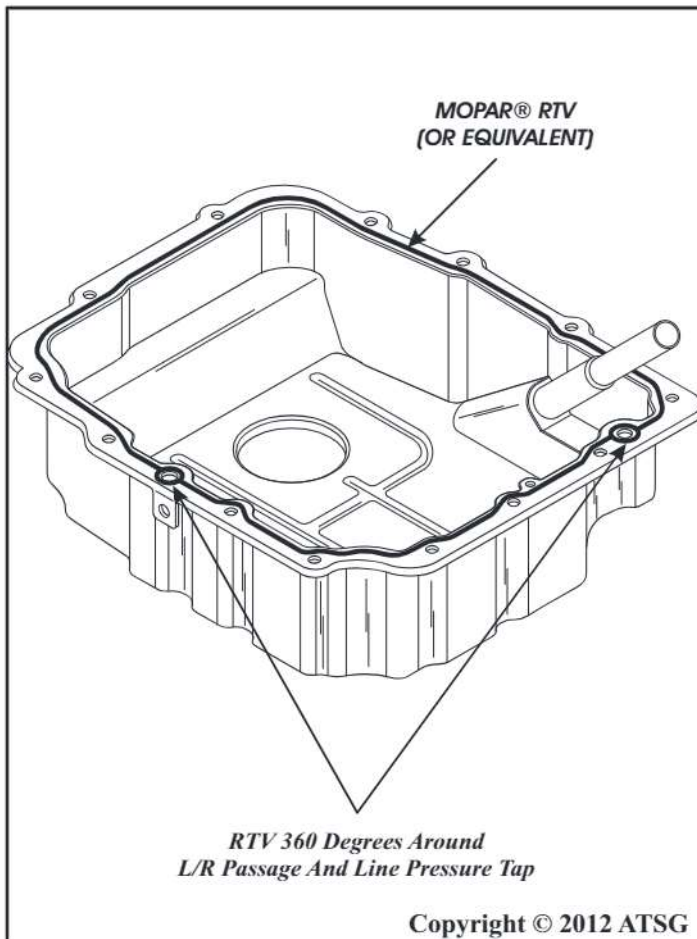

Figure 282
92. Install a bead of Mopar® RTV, or equivalent, on valve body side cover, as shown in Figure 282.